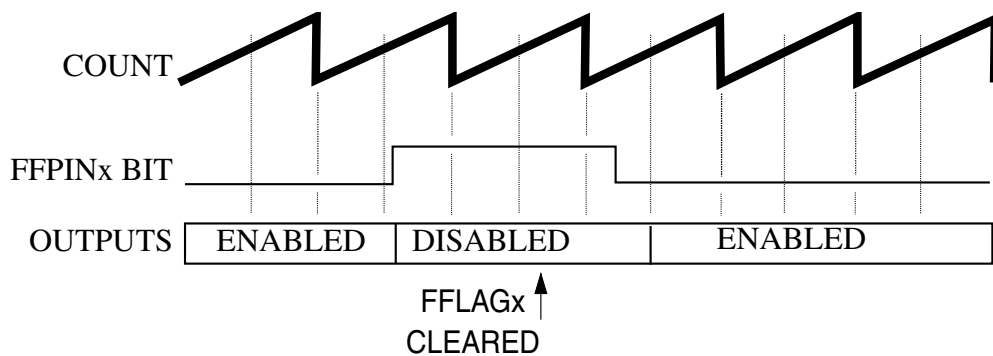

Figure 106. Manual fault clearing (FCTRL[FSAFEx] = 1, FSTS[FHALFx] = 1)
- The filter detects a logic zero on the FAULT_x pin at the start of the next PWM full or half cycle boundary, as shown in Figure 106. If FSTS[FFULL_x] is set, then the disabled PWM pins are enabled at the start of a full cycle. If FSTS[FHALF_x] is set, then the disabled PWM pins are enabled at the start of a half cycle.